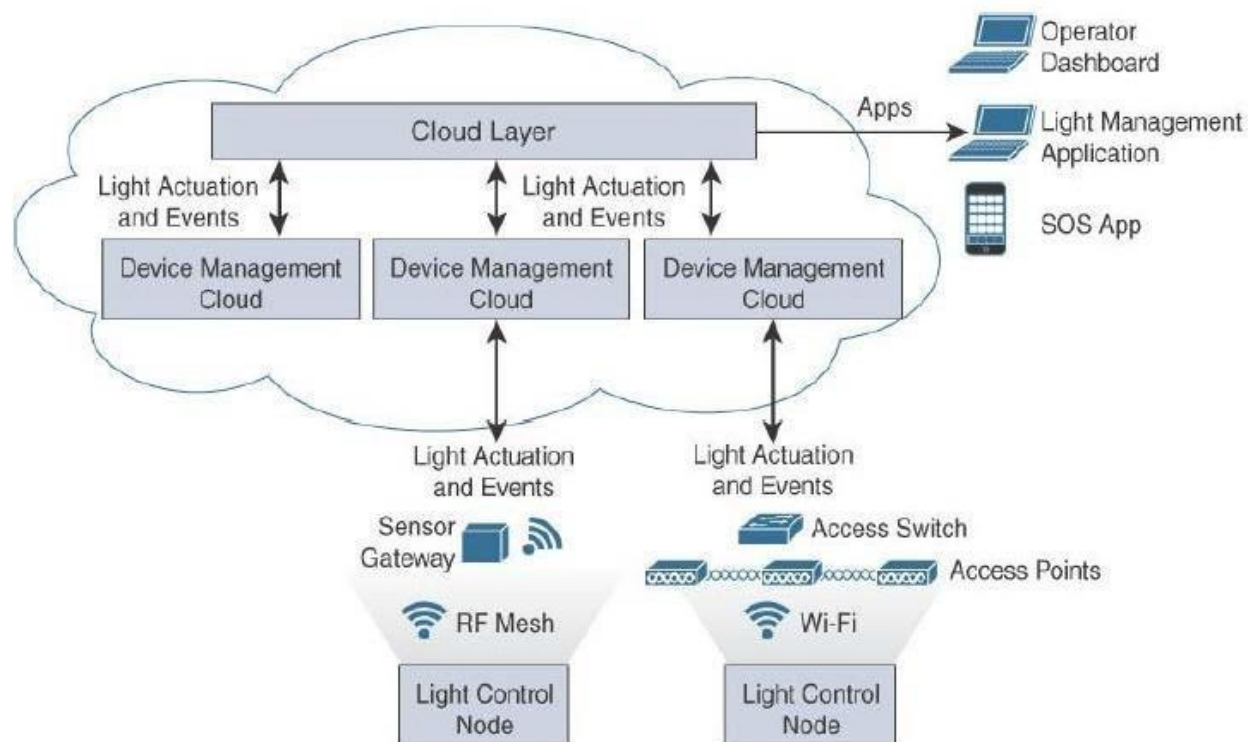

Figure 5.17 Connected Lighting Architecture
- The controller and LED lights use the cloud to connect to the smart city's infrastructure, as shown in Figure 5.17.